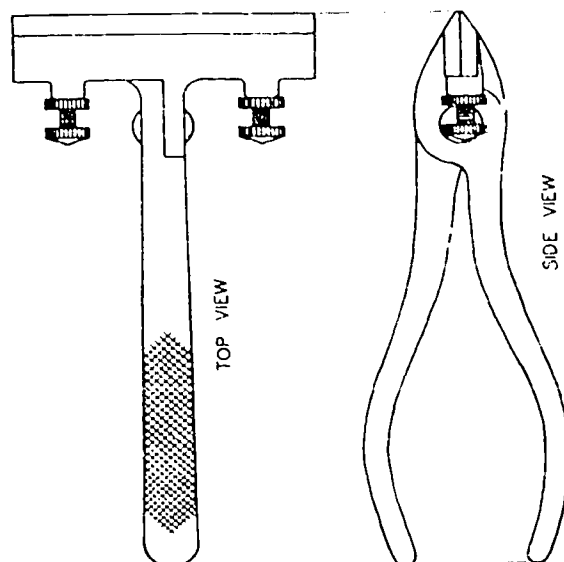

Figure 3-20. Hand seamer.
**Hand seamers.** Hand seamers are used to fold light gage metal and to form seams or joints. Figure 3-20 illustrates two views of a hand seamer you may use that has screws on either side of the head. These are adjustable for different width seams. Jamnuts prevent the screws from slipping, which might cause an uneven bend while folding the seams. This is also true for bends longer than the width of the hand seamer. The hand seamer is useful when turning edges for seams on small jobs and when the brake or bar folder is not available.